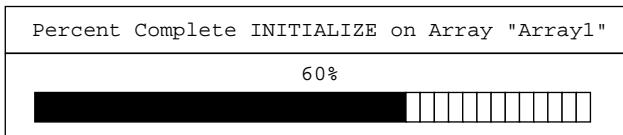

Figure 3-3. Graph of Initialization Process
12 A message appears indicating that the initialization process has started successfully. Press **Esc** to dismiss this message. If you wish, you can press **Alt-Esc** to view a graph showing the progress of the initialization process, as shown in Figure 3-3.
- 5 A message appears indicating that the initialization process has started successfully. Press **Esc** to dismiss this message. If you wish, you can press **Alt-Esc** to view a graph showing the progress of the initialization process, as shown in Figure 3-3 on page 3-6.